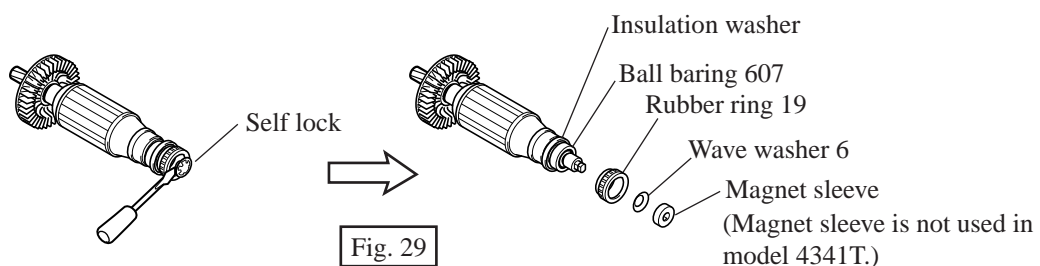

Fig. 29
4. Disassemble self lock with small flat head screwdriver. Then, magnet sleeve, wave washer 6 and rubber ring 19 can be disassembled from armature shaft as illustrated in Fig. 29.